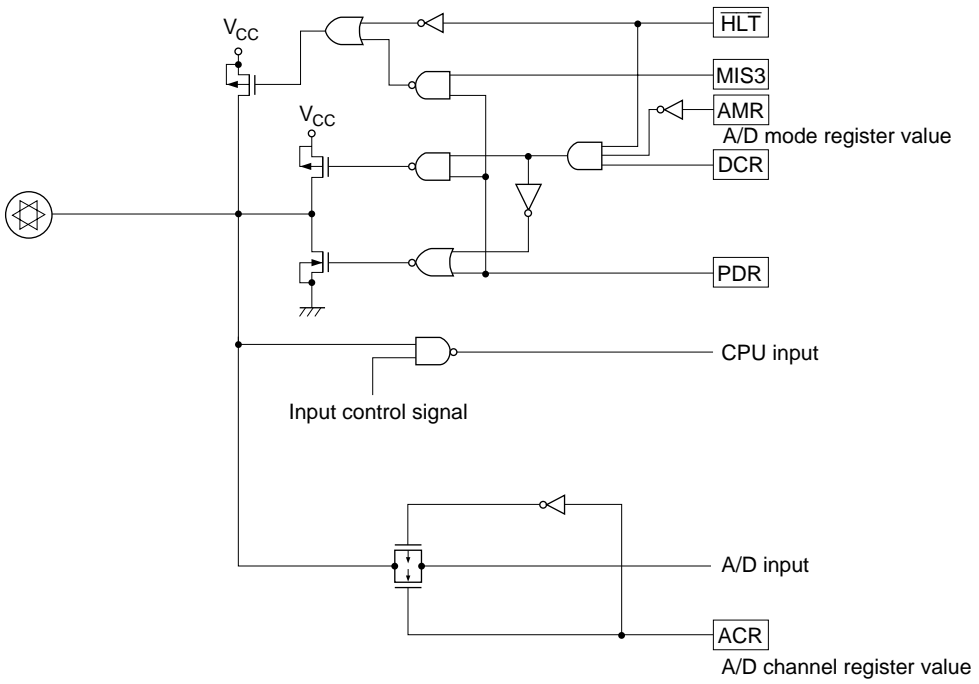

Figure 71 R Port/Analog Multiplexed Pin Circuit
- The port data register (PDR) is initialized to 1 by an MCU reset. At this time, if pull-up MOS is selected as active by bit 3 of the miscellaneous register (MIS3), the port will be pulled up to V_{CC} . When using a shared R port/analog input pin as an input pin, clear PDR to 0. Otherwise, if pull-up MOS is selected by MIS3 and PDR is set to 1, a pin selected by A/D mode register 1 or 2 (AMR1 or AMR2) as an analog pin will remain pulled up (figure 71).